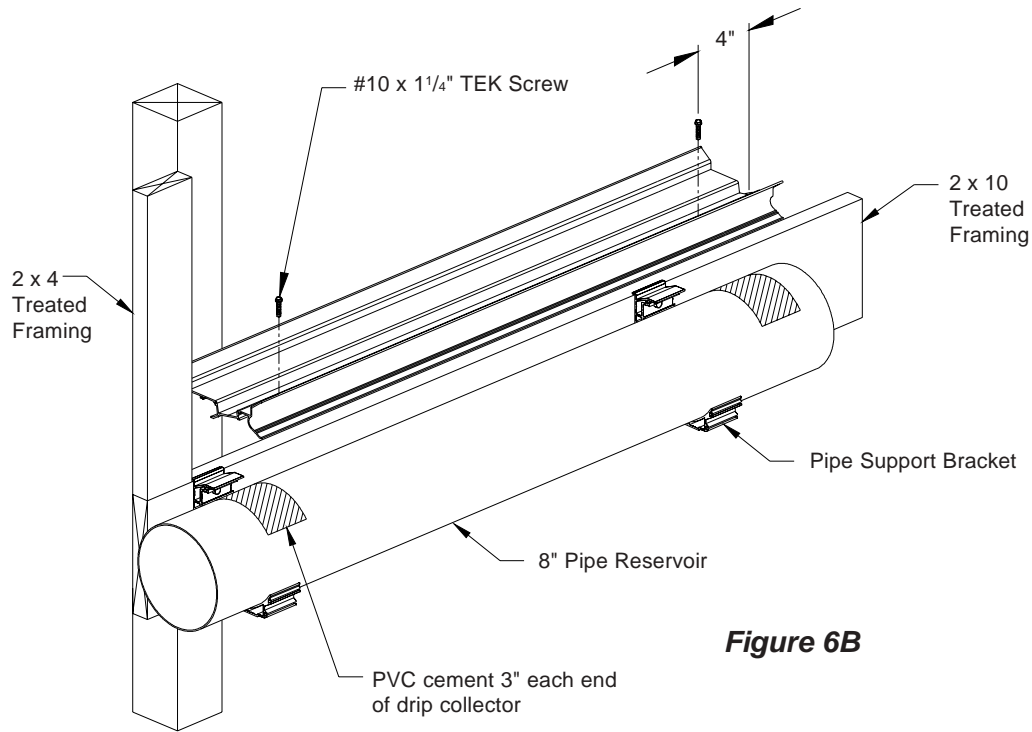

Figure 6B
- 9) Carefully lift end of drip collector off 8" pipe. Prime and PVC cement a 3" wide area on 8" pipe, at both ends of collector. Replace drip collector on the 8" pipe, keeping it level. Fasten each end of collector to 8" pipe using (1) #10 x 1/4" TEK screw located 4" from each end. **See Figure 6B and 6C.**